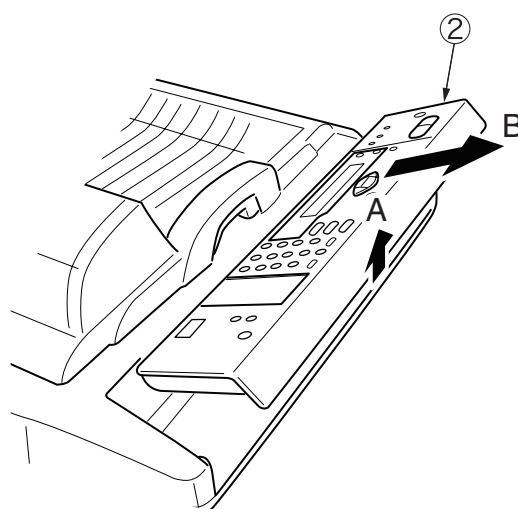

Figure 2
- (2) Pull the front of the ASS'Y CONTROL PANEL ② in the direction of arrow A and then slide the ASS'Y in the direction of arrow B to remove it. (Figure 2)